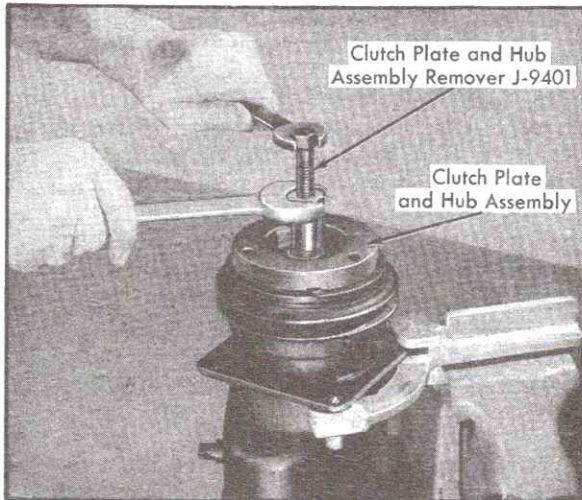

Fig. 1-30 Removing Clutch Plate & Hub Assembly
3. Thread Clutch Plate and Hub Assembly Remover, J-9401, into hub. Hold body of tool with a wrench and tighten center screw to remove clutch plate and hub assembly, Fig. 1-30.